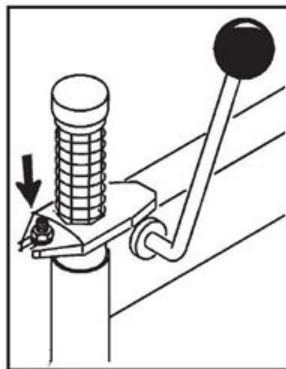

Fig. 5-4
- If the working head is not locked or cannot be held 2 mm above the rim, adjust the operator arm locking plate (Fig. 5-4).